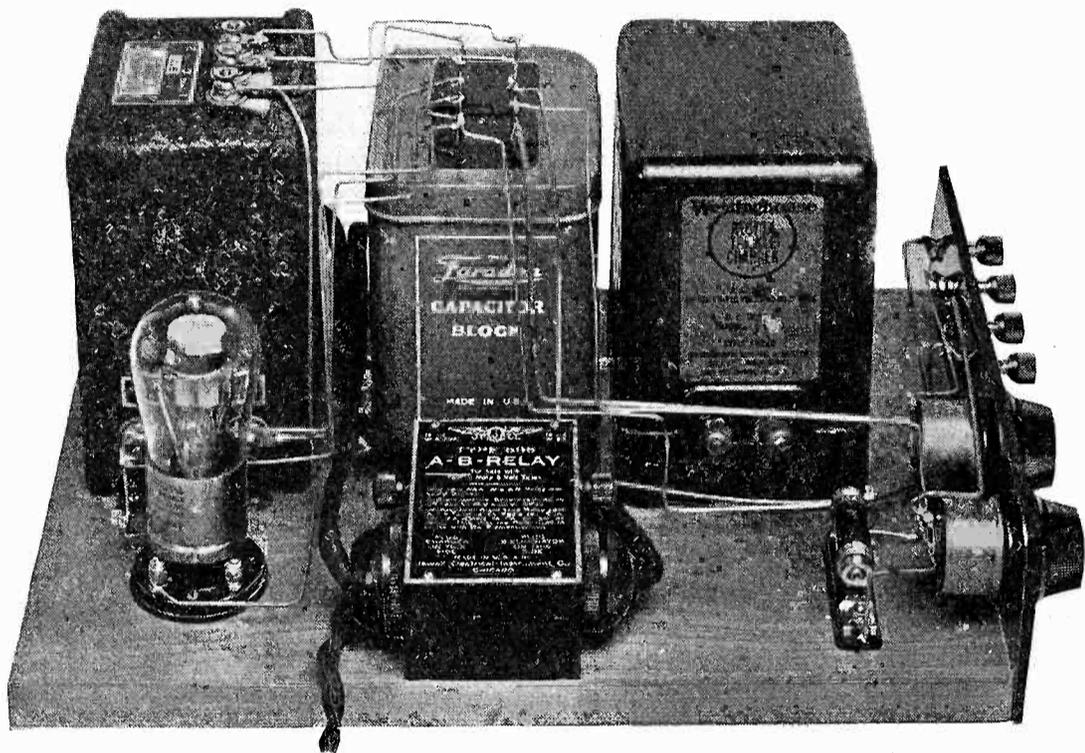

Fig. 5. Compact Power Plant for Quadrature Receiver.
**T**O MAKE the receiver as simple to operate as possible, with the main filament switch on the panel controlling all auxiliary apparatus, a power plant equipped with automatic relay was assembled, and is shown in Fig. 5. This group of accessories consists of a compact *B* eliminator of the Raytheon type, a trickle charger, and a relay, all mounted on one base, so that the only additional accessory to the